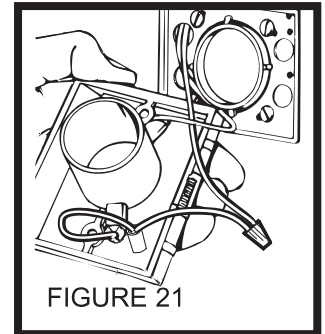

FIGURE 21
3. Refer to Figure 21. Connect the red striped wire of the 2-conductor low voltage cable to the unused terminal screw on the inlet. Connect the remaining wire to the black pigtail wire. Cap off both wires using wire nut (supplied).